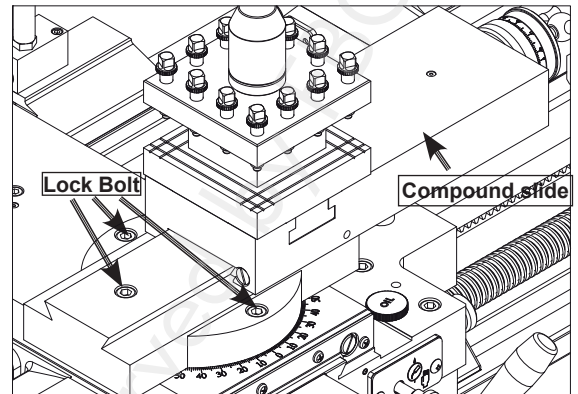

Fig. 40 Compound slide set at an angle
1. Loosen the three lock bolts at the base of the compound slide (shown in figure 40).